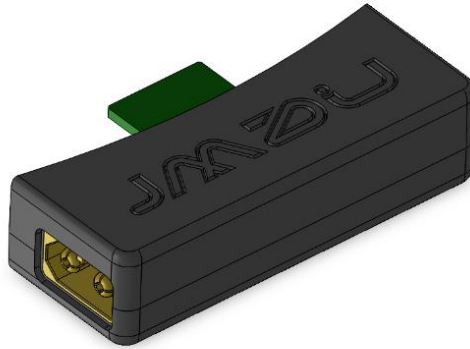

Fig 12
- Chef can be charged using the Charger Key Adapter (Fig 12). You can charge Chef through the XT60 connector with the included AC power supply or compatible solar panels.